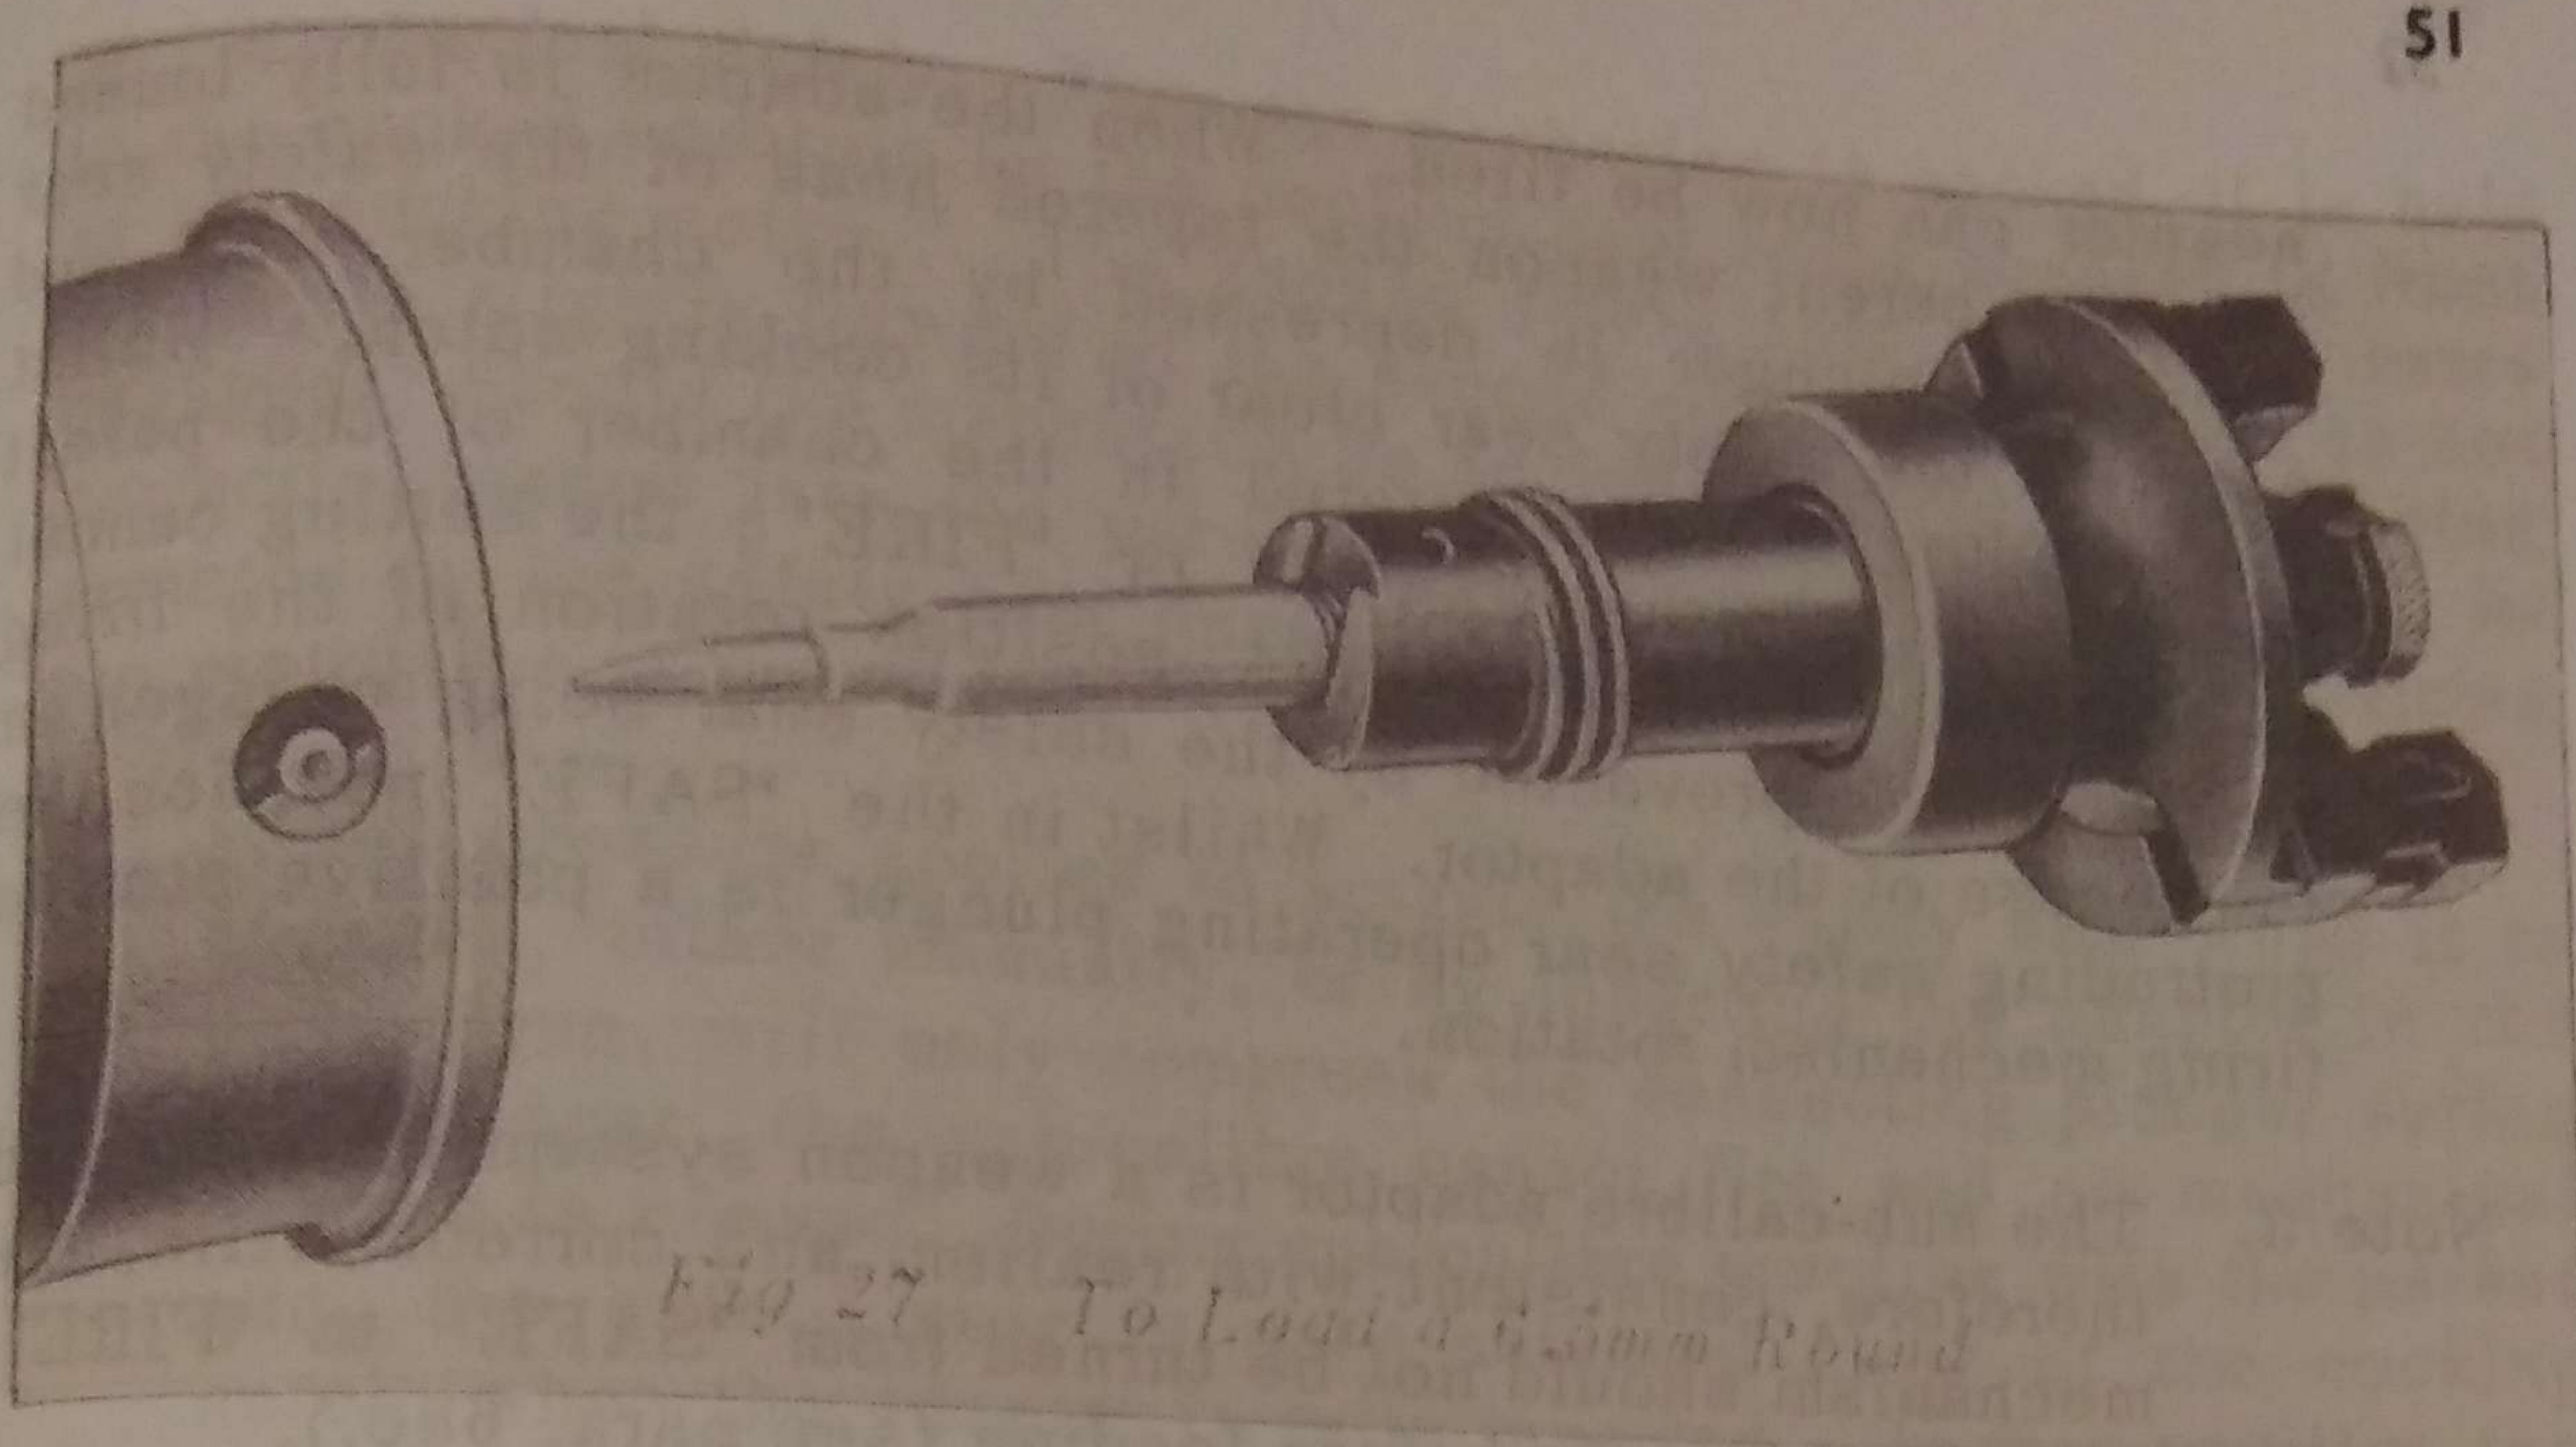

Fig 27 To Load a 6.5mm Round
c. Place a 6.5 mm round into the seating at the front of the housing sleeve. (Fig 27).
74. *Stripping.* To dismantle and assemble the firing mechanism. (Figs 27 - 31). Cock the mechanism and withdraw it from the body as described in para 68a and para 68b, then proceed as follows: